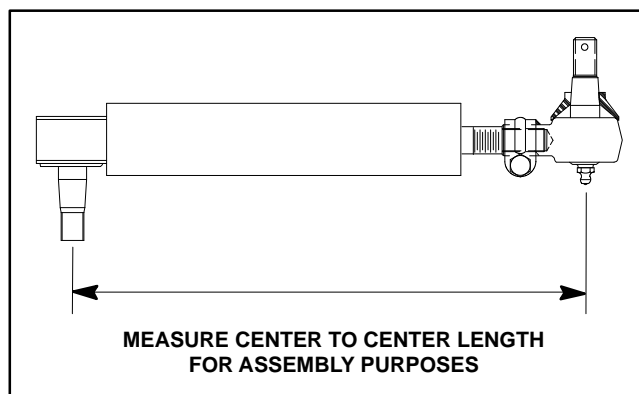

Figure 95
6. Remove two (2) jam nuts (item 11) that secure steering cylinder to axle. Remove cotter pin (item 12) and slotted hex nut (item 13) that secure steering cylinder to RH drag link.
8. If necessary, remove ball joints from steering cylinder barrel and shaft. If ball joint is to be removed from cylinder shaft, fully retract cylinder shaft and measure center to center length to ease installation of ball joint onto cylinder shaft (Fig. 95).